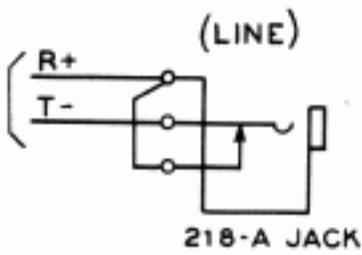

FIG. 4
- ⑦ PROVIDE FIGS. 4 AND 9 WHEN A SEPARATE JACK FIELD IS REQUIRED AT THE CLOCK LOCATION.